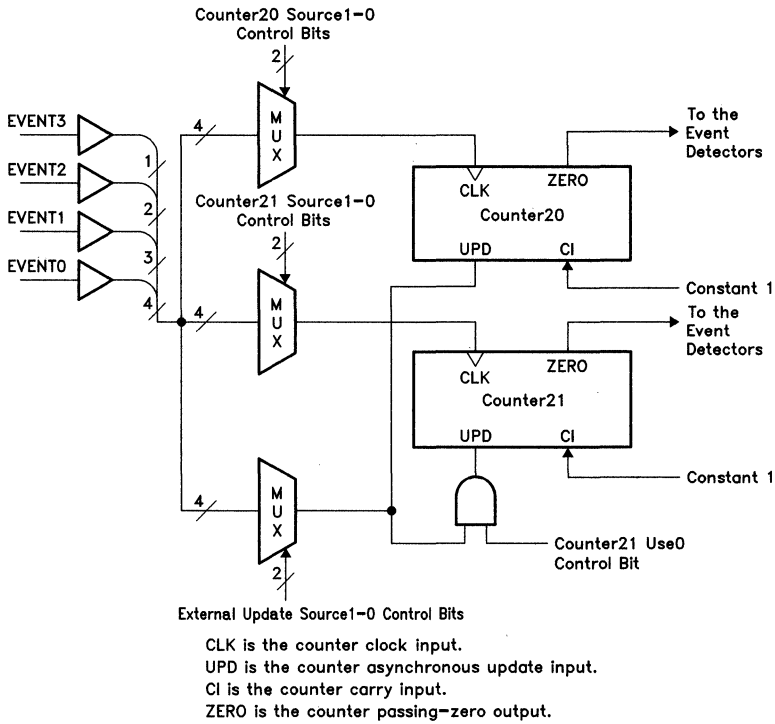

FIGURE 17. SEPARATE USE OF COUNTER20 AND COUNTER21
- Separate use means events are counted as decided by the control9 register and OPERATE2 command bits. They are independent 16-bit counters (see Figure 17).